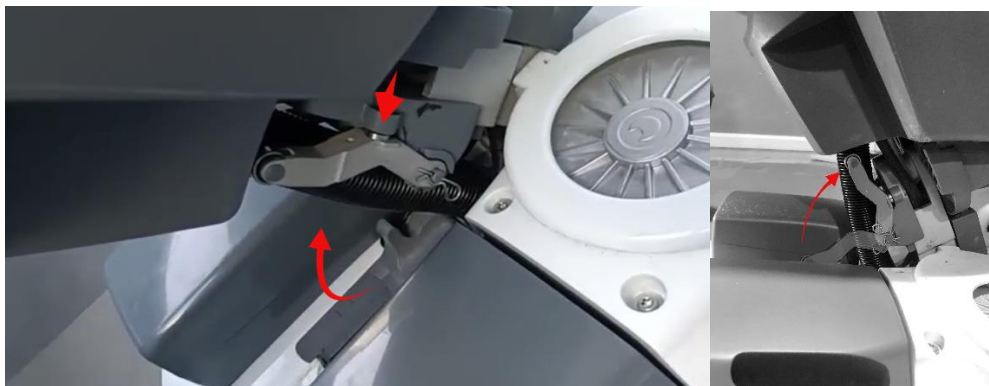

Figure 20A: bringing back in position before parking the unit.
* put the arm always back at storage position before parking the unit. (figure 20A).